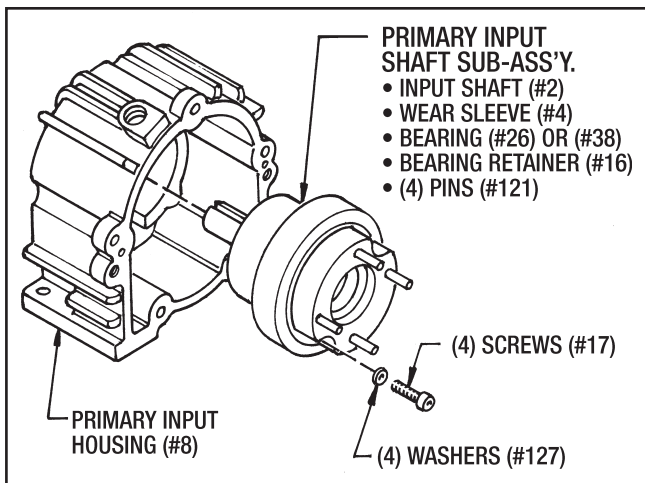

Figure 9.6 - Installing Input Shaft Sub-Assembly
6. Insert this Input Shaft Subassembly into the Input Housing being careful not to damage the lip of the Oil Seal (#31). (See Figure 9.6)